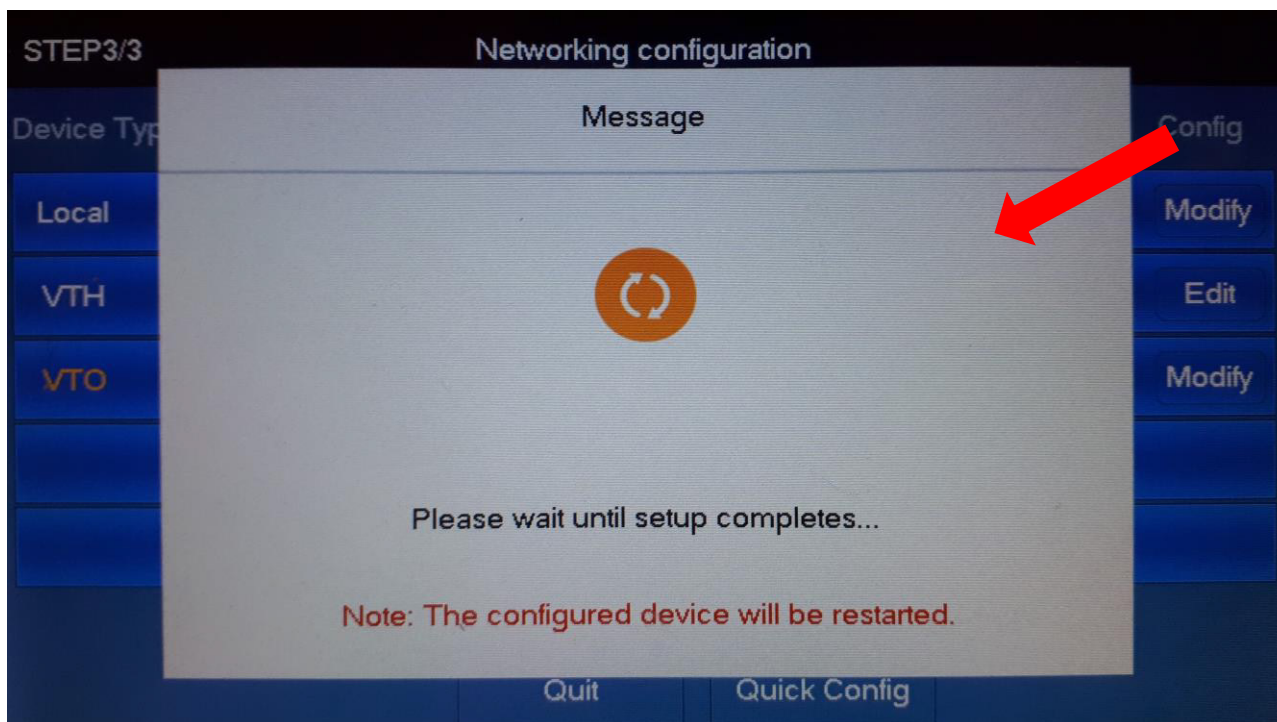

FIGURE 5-10
- x. The setup window (Figure 5-10) will display while the configuration is sent, following this the Call Point will reboot, and the configuration will be saved. The apartment station will display the home screen when the system is ready for operation.